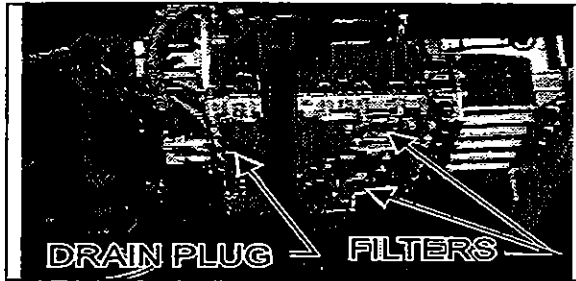

Figure 4: Plug and Filters
2. Remove the drain plug from under the transmission (Fig. 4) and allow the oil to drain into a suitable container. Check the condition of the oil as described previously.
3. To replace the integral filters, remove twelve bolts, two filter covers, two O-rings, two square cut seals and the two filters from the bottom of the control module (Fig. 4).